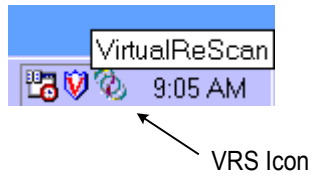

Figure 45. VRS Icon in Windows Taskbar
- 7 The **Software VRS** icon will appear on your Windows taskbar, as shown in Figure 45.
- 6 The **Software VRS** icon, shown in Figure 45, will appear once you start to scan.
- 9 **Software VRS'** icon on the Windows taskbar will appear once you start to scan (shown in Figure 45). Follow your scan application instructions to scan.